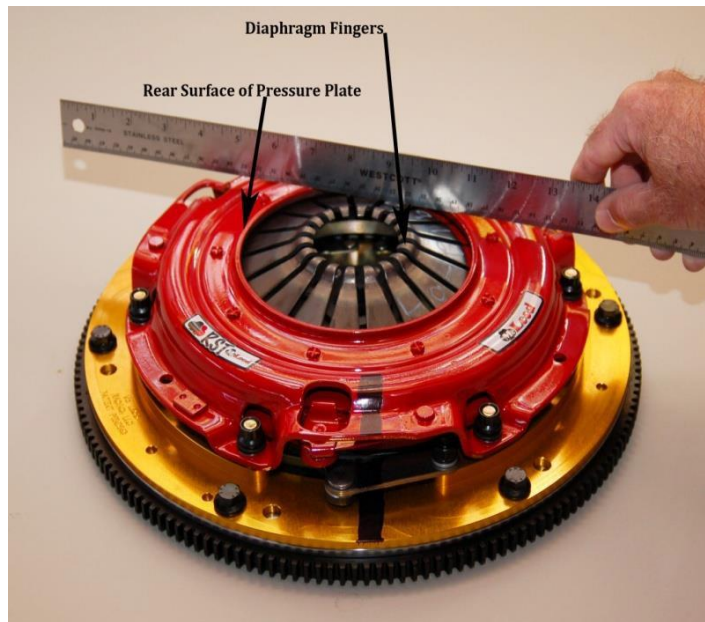

Figure 7
- 9) Check diaphragm finger height at this time by placing a straight edge onto the pressure plate across the finger opening. All of the fingers should be at or below the rear surface of the pressure plate. Figure 7.